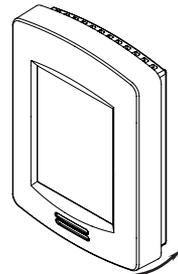

Figure 4
6. Gently align the cover with the top of the base and snap in place from the bottom (Figure 4).